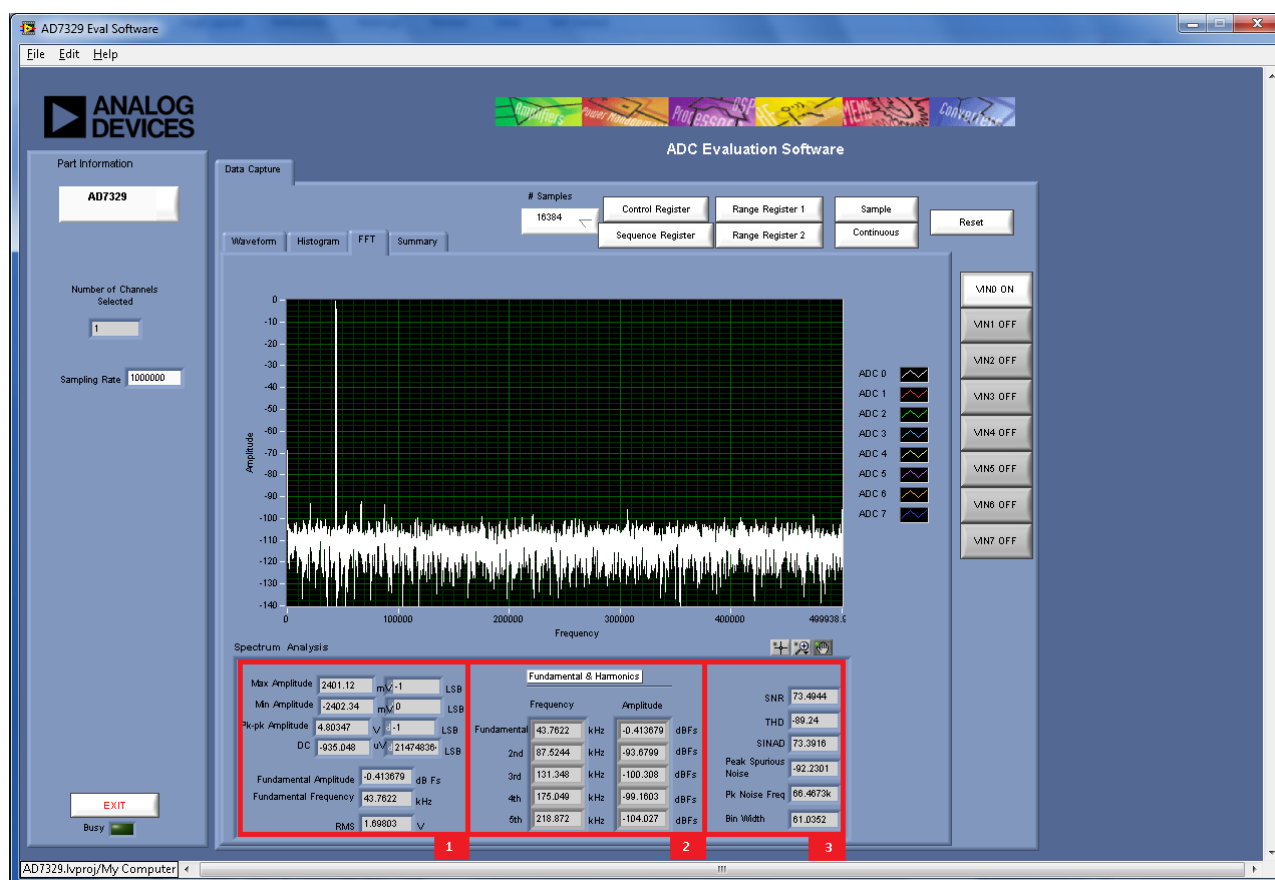

Figure 24. FFT Tab
Figure 24 shows the FFT tab. This feature tests the traditional ac characteristics of the converter and displays a fast Fourier transform (FFT) of the results.
- The area labeled 1 in Figure 24 shows the input signal information.
- The area labeled 2 in Figure 24 displays the fundamental frequency and amplitude in addition to the second to fifth harmonics.
- The area labeled 3 in Figure 24 displays the performance data, including the SNR, THD, and SINAD.